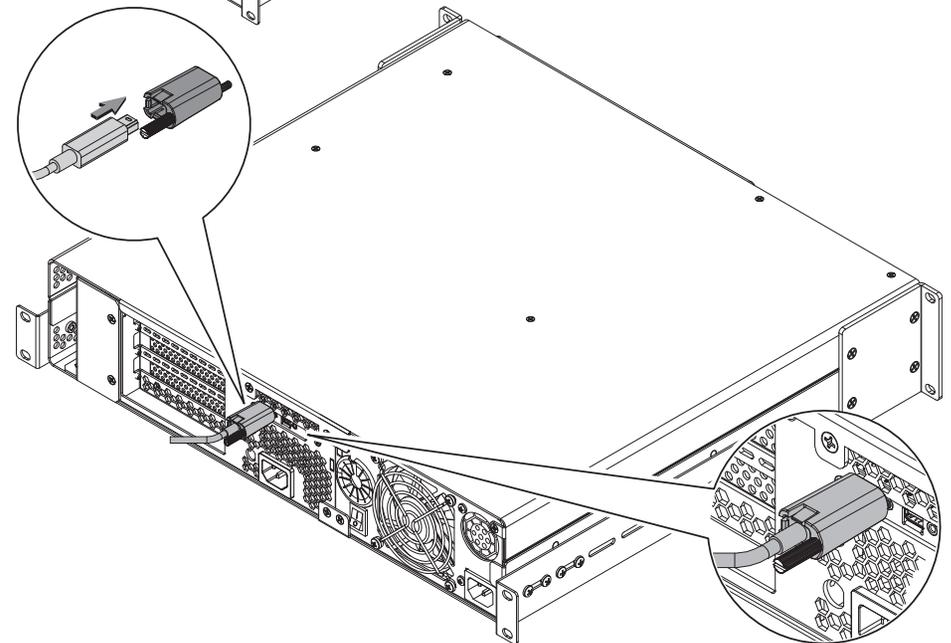

Figure 7
To attach the clip to the cable, remove them from their packaging, and then insert the connector into the connector clip as shown (Figure 7). Note that the connector will pass all the way through the clip; when you connect the cable to the chassis, the clip will secure the cable.
8. Connect the included Thunderbolt cable between either Thunderbolt port on the Echo chassis and a Thunderbolt port on your computer, or other Thunderbolt device in the chain connected to the computer (Figure 7). Secure the retainer clip to the chassis if you attached it. If you are daisy chaining additional Thunderbolt devices, connect another Thunderbolt cable between the downstream device and the open Thunderbolt port on the Echo chassis.